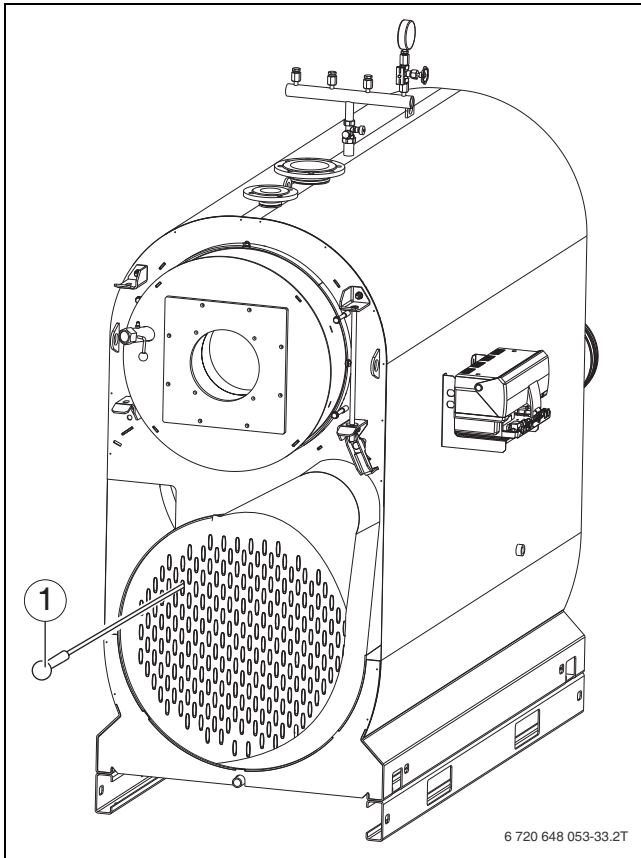

Fig. 33 Cleaning the flue gas collector
- ▶ Clean the secondary heating pipes with a brush (→ fig. 33, page 32).